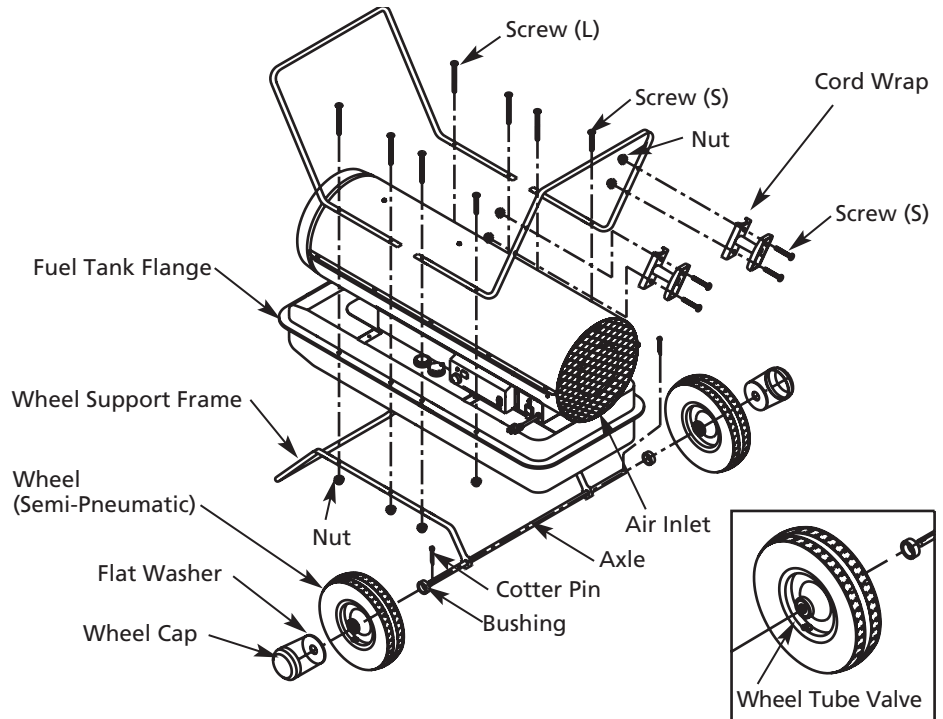

Figure 5 – Wheel and Handle Assembly
NOTE: When installing wheels, tube valve should face out from support frame (Figure 5).
4. Place heater on wheel support frame. Make sure air inlet end (rear) of heater is over wheels. Align the holes on fuel tank flange. Insert screws through handles (front and rear), fuel tank flange, and wheel support frame as shown in Figure 5 and attach nut finger tight after each screw is inserted.
7. Insert screws through cord wrap, rear handle as shown in Figure 5 and attach nut finger tight after each screw is inserted.